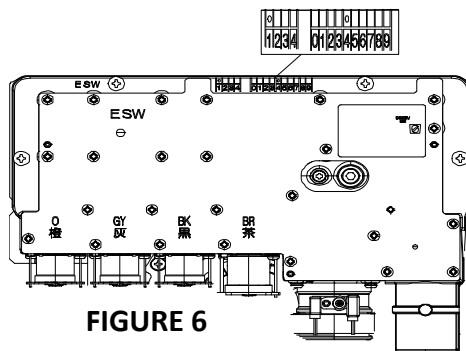

FIGURE 6
11) Insert the new manifold plate supplied with the conversion kit. The orifice size of the gas manifold plate should be marked as follows (check Figure 6):